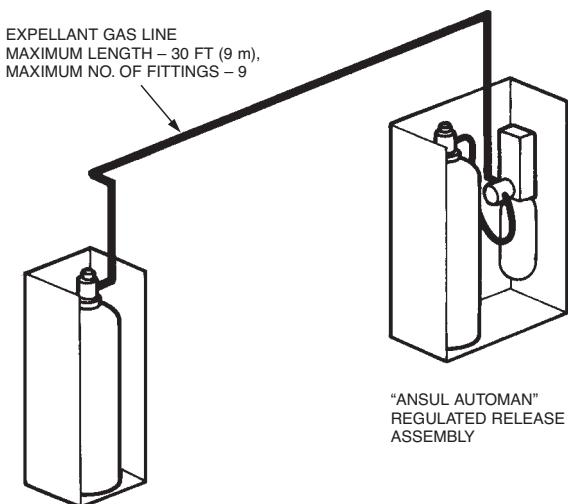

FIGURE 103
- 1. The expellant gas line is installed from the regulated release mechanism in double, three, and multiple-tank systems, and from the regulated actuator assembly in multiple-tank systems. The expellant gas line is the piping and/or hose between the regulator and the tank-enclosure/tank-bracket assembly. The total length of the expellant gas line from the regulated release mechanism or each regulated actuator assembly **must not exceed** 30 ft (9 m) when using a "double-tank" cartridge, an LT-A-101-30 Cartridge, or a 101-30 Cartridge. See Figures 103 and 104.